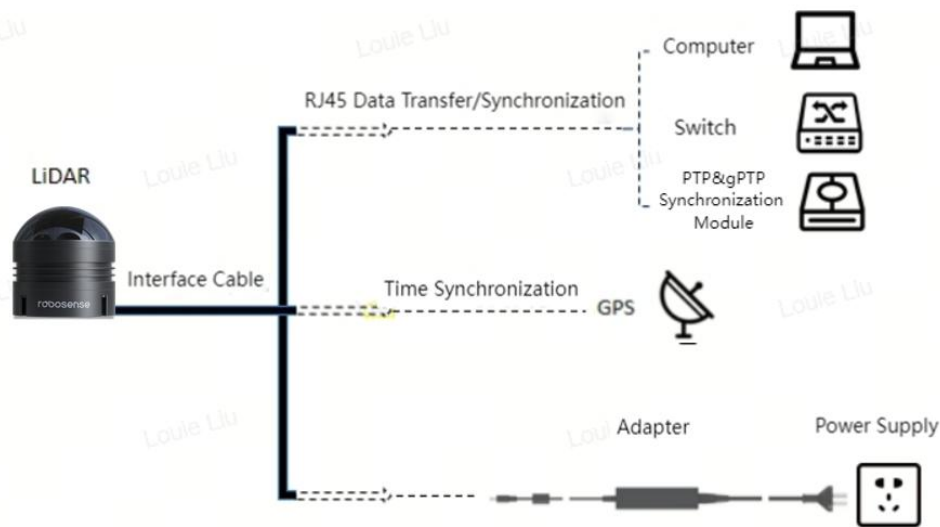

Figure 10 Interface Cable Connection Diagram
The connection method is shown in Figure 10.
- 1) The time synchronization module (PTP & gPTP, GPS time synchronization module) is not included as a standard product. If you need to use these features, please purchase them separately and follow the connection method shown in Figure 10.